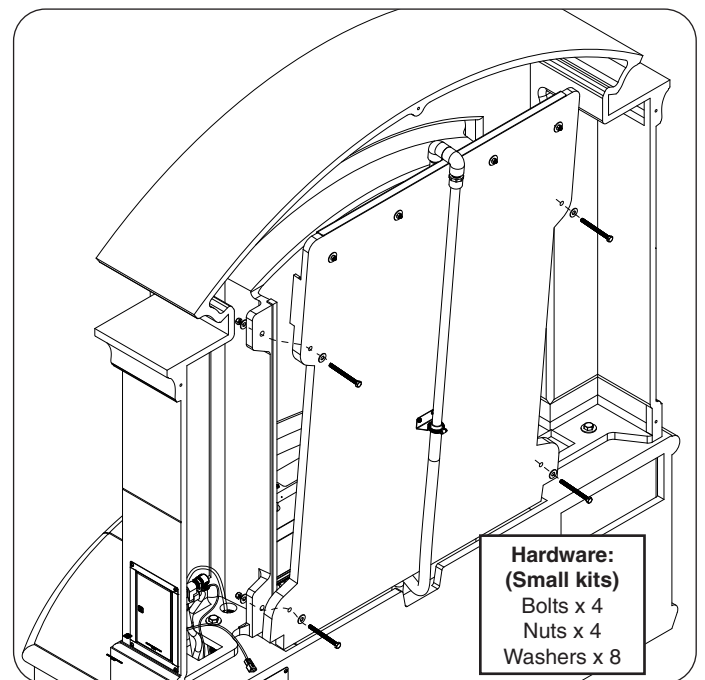

Fig. 29-3 Place inner rear-panel and fasten
3. Place the inner rear-panel by first resting its bottom on the hearth, then slowly lifting it upward into place (see Fig. 29-3).
4. Insert the hardware (small hardware kits) in the order shown in Fig. 29-3. Hand tighten, then use two 1/2" open end wrenches (or equivalent) to fasten.